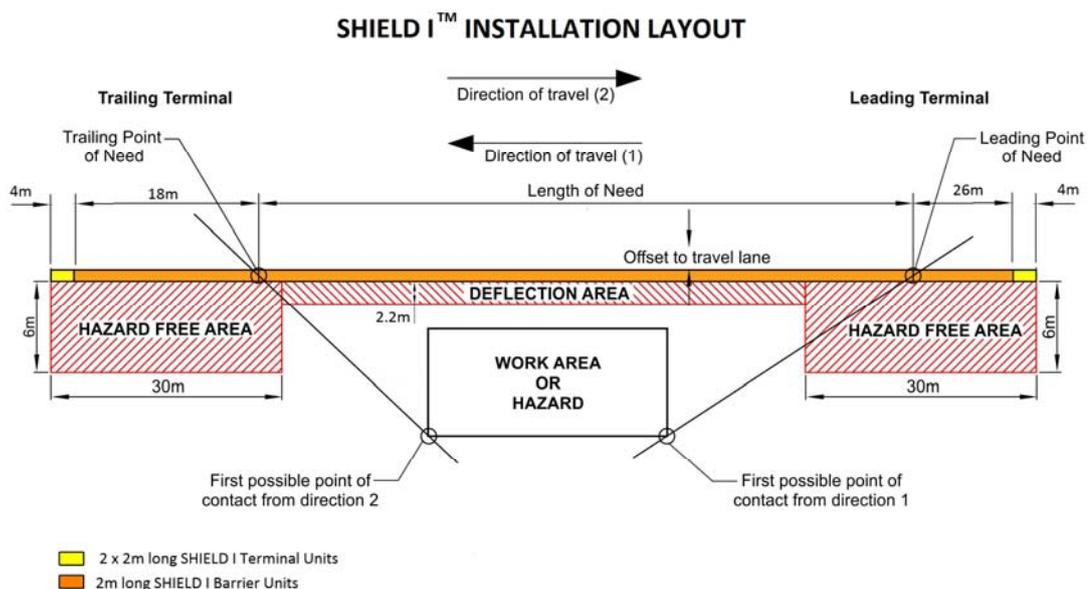

Figure 3: SHIELD I Layout Diagram
- Plant, personnel or roadside hazards should not be located within the hazard free and deflection area as shown in Figure 3.